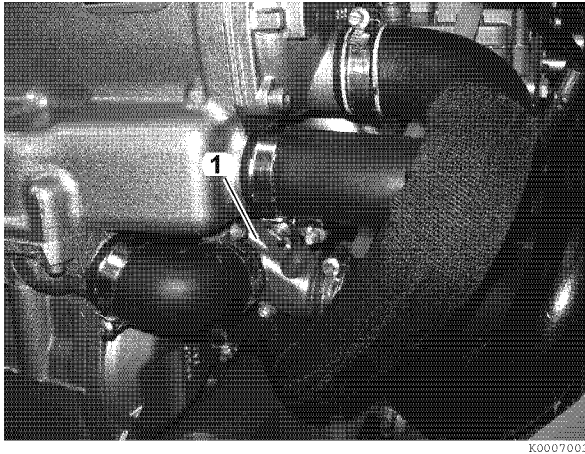

Figure 7-20
2. Remove air pipe and coolant hoses as necessary to allow access to the thermostat housing assembly (1, **Figure 7-20**).